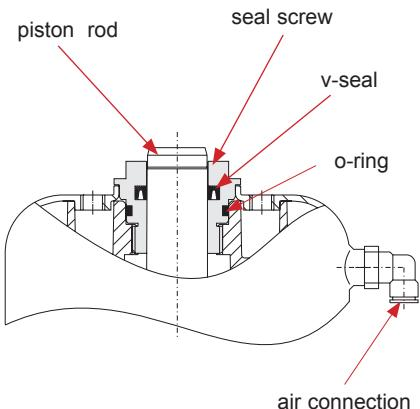

fig. 14.3.
1. Install the slightly greased o-rings and v-seals in the seal screws (fig. 14.3).